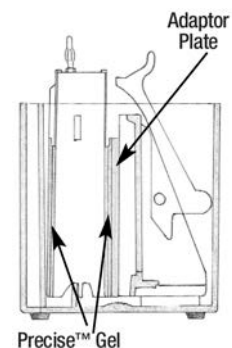

Figure 5. Adaptor plate placement when using two gels.
- Using the wedge device, clamp the running frame and the gels into place (Figure 5). The running frame should be fixed tightly and the gels should not be able to move.